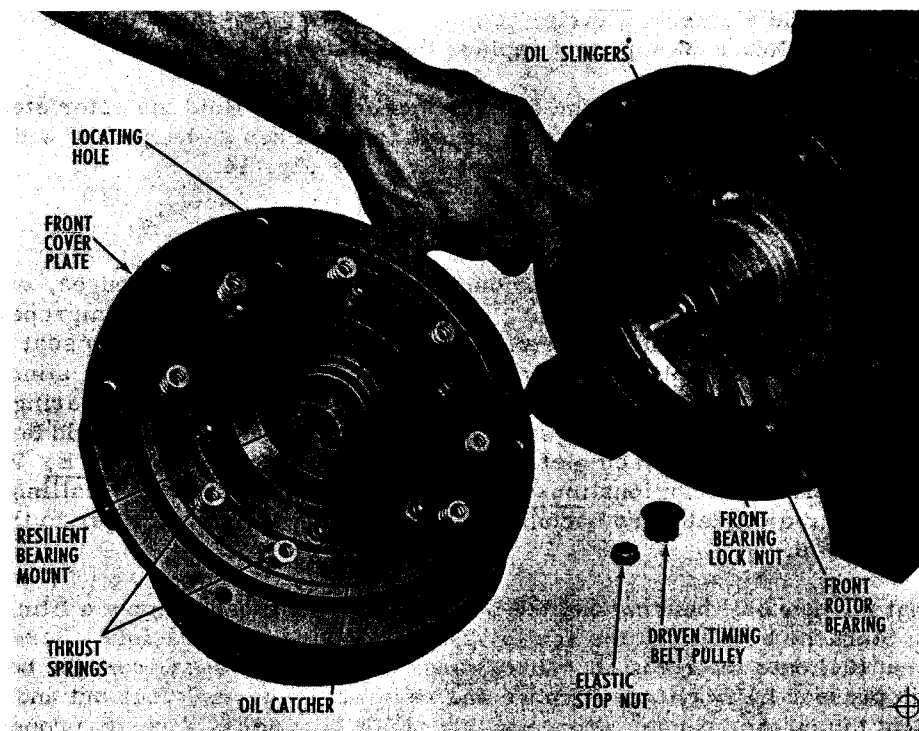

FIG. 14 BEARING LOCK NUT REMOVAL
- 14.12 Use a spanner wrench to remove the bearing lock nut (94). Hold the rotor steady by grasping the oil slingers with one hand and strike the spanner wrench a sharp blow with a light hammer. Once loosened, the lock nut will unscrew easily. See Fig. 14.
- 14.14 Inspect the bearing seat of the shaft for damage such as flat spots, gouges, etc. This type of damage is unlikely, but should it occur, in such a degree as to cause improper seating of the bearing, the Turbo-Pump must be returned to the factory. The bearing seat is ground to a 50 micro-inch diametral tolerance. Inspect the oil catchers (82) and oil slingers (see Fig. 14) to determine if eccentric rotation of the rotor due to a badly damaged bearing might have caused contact of catchers and slingers at high speed. These parts should be clean and smooth, and any burrs or raised metal deposits must be removed. **NOTE:** When scraping or sanding these parts, precautions must be taken to prevent debris from falling into any of the pump parts. If the oil catchers become unavoidably contaminated, refer to the cleaning instructions in 17.0.
- 14.20 Inspect the bearing resilient mount (87) (Fig. 18) from the back of the front cover-plate assembly as seen in Fig. 14. In the case of a locked bearing or an overheated bearing due to loss of oil, the resilient mount will definitely be damaged. In any case, examine the resilient mount for signs of abrasion or cuts. Also examine the entire cover-plate assembly for particles of rubber or metal. To change the resilient mount, grasp the old one with a pair of long-nosed pliers and remove. Clean the area and press a new mount into position by hand.
- 15.10 Use a spanner wrench to remove the bearing lock nut (103). Hold the rotor steady by grasping the oil slingers with one hand and strike the spanner wrench a sharp blow with a light hammer. Once loosened, the lock nut will unscrew easily. See Fig. 14 for front end example.
- 15.12 Inspect the bearing seat of the shaft for damage such as flat spots, gouges, etc. This type of damage is unlikely, but should it occur in such a degree as to cause improper seating of the bearing, the turbo-pump must be returned to the factory. The bearing seat is ground to a 50 micro-inch diametral tolerance. Inspect the oil catchers (82) and oil slingers (see Fig. 14) to determine if eccentric rotation of the rotor due to a badly damaged bearing might have caused contact of catchers and slingers at high speed. These parts should be clean and smooth, and any burrs or raised metal deposits must be removed. NOTE: When scraping or sanding these parts, precaution must be taken to prevent debris from falling into any of the pump parts. If the oil catchers become unavoidably contaminated, refer to the cleaning instructions in 17.2.
- 15.16 Inspect the bearing resilient mount (87) (Fig. 18) from the inside of the back cover plate assembly as seen for the front cover plate in Fig. 14. In the case of a locked bearing or an overheated bearing due to loss of oil, the resilient mount will definitely be damaged. In any case, examine the resilient mount for signs of abrasion or cuts. Also examine the entire cover plate assembly for particles of rubber or metal. To change the resilient mount, grasp the old one with a pair of long-nosed pliers and remove. Clean the area and press a new mount into position by hand.